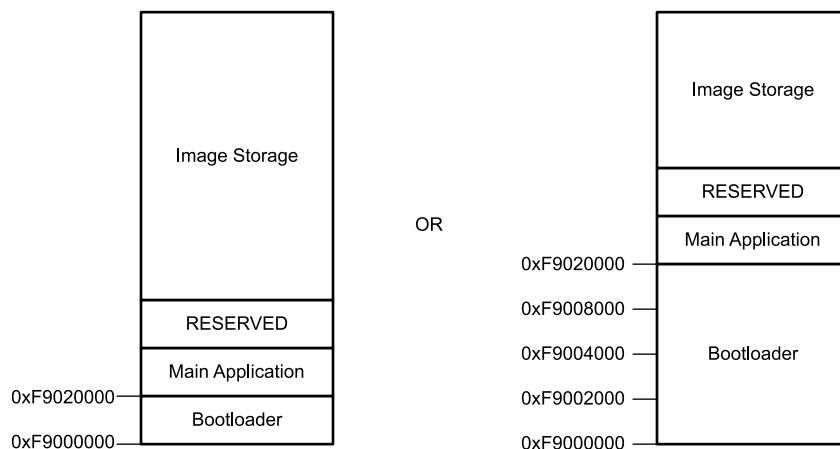

图 7-2. Boot Flash Memory Layout
All applications require both the controller and DMD components for reliable operation. The system uses an external parallel flash memory device loaded with the DLPC900 configuration and support firmware. The external boot flash must contain a minimum of two sectors, where the first sector starts at address 0xF9000000 which is the power-up reset start address. The first 128 kilobytes is reserved for the bootloader image and must be in its own sector and can be made up of several smaller contiguous sectors that add up to 128 kilobytes as shown in 图 7-2. The remaining sectors contains the rest of the firmware. The default wait-states is set for a flash device of 120ns access time. For a faster flash access time, refer to the 节 7.2.1.2.1.4.2 on how to program new wait-state values.
- PM_CSZ_1 - dedicated CS for boot flash device (≤ 16 megabytes). Refer to the 图 7-2 for the memory layout of the boot flash.